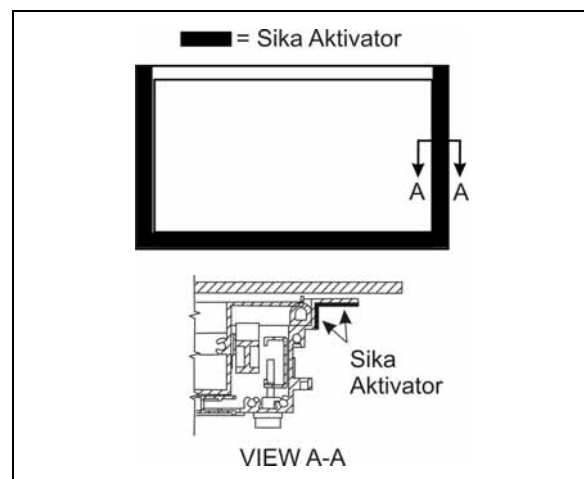

FIGURE 68 : AWNING WINDOW - SIKA AKTIVATOR
5. Previously clean surface with anti-silicone and then apply Sika Aktivator as per FIGURE 68;